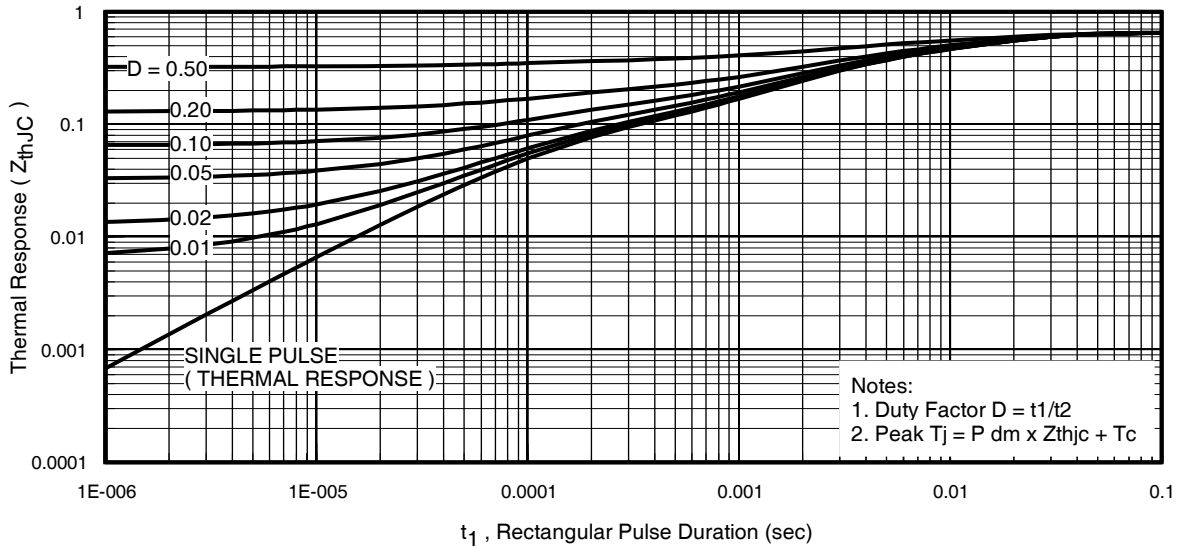

Fig 14. Maximum Effective Transient Thermal Impedance, Junction-to-Case
Notes on Repetitive Avalanche Curves , Figures 14, 15:
7. ΔT = Allowable rise in junction temperature, not to exceed T_{jmax} (assumed as $25^\circ C$ in Figure 14, 15).